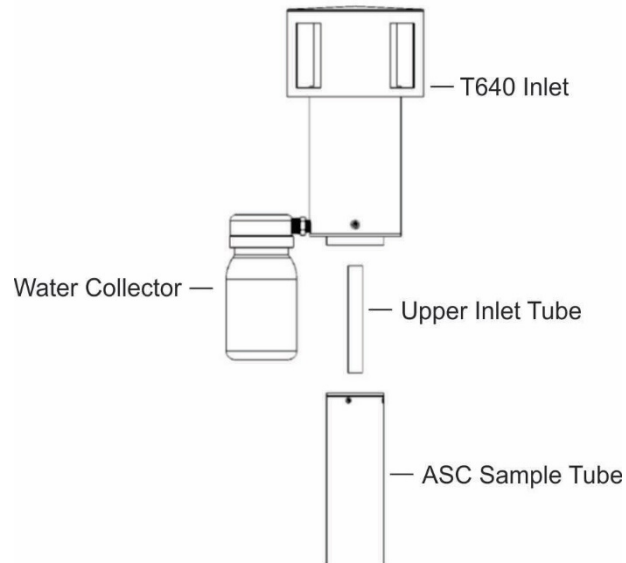

Figure 2-13. T640 Sample Head (5-LPM) and ASC Assembly
2. For the T640, assemble the inlet and the ASC as depicted below (Figure 2-13. T640 Sample Head (5-LPM) and ASC Assembly).